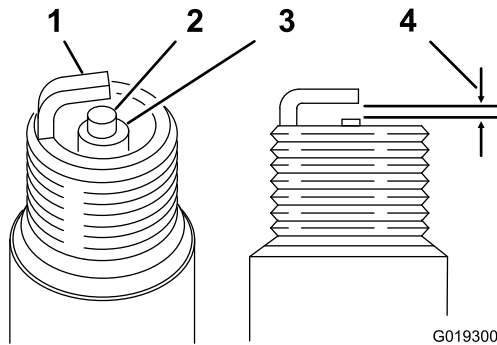

Figure 49
1. Look at the center of the spark plug (Figure 49). If you see light brown or gray on the insulator, the engine is operating properly.
2. Use a gapping tool for spark plugs or a feeler gauge to measure the gap between the side electrode and center electrode (Figure 49).